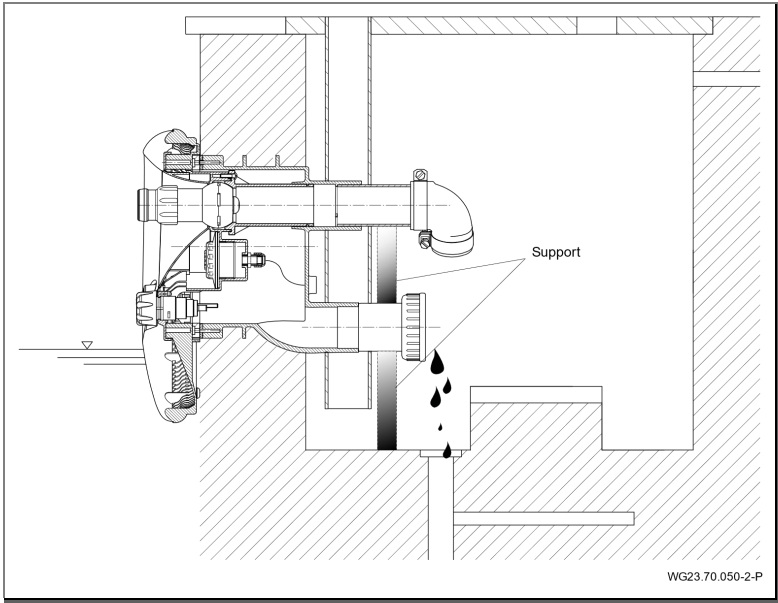

Fig. 28
- 3. Support the suction and pressure lines to relieve them. See "Fig. 28" on page 44.